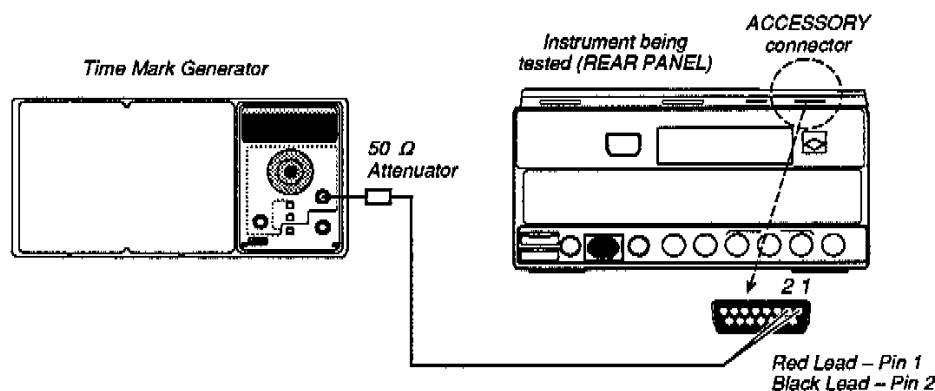

Figure 4-23. Test Equipment Connections for Sweep Speed Timing Accuracy Check.
2. Connect the time mark generator (through a X5 50 Ω attenuator) to the video input of the ACCESSORY connector on the instrument rear-panel with a 50 Ω cable and a BNC-to-dual-pin-out cable (as shown in Figure 4-23). The red lead connects to pin 1 (signal) and the black lead to pin 2 (ground).